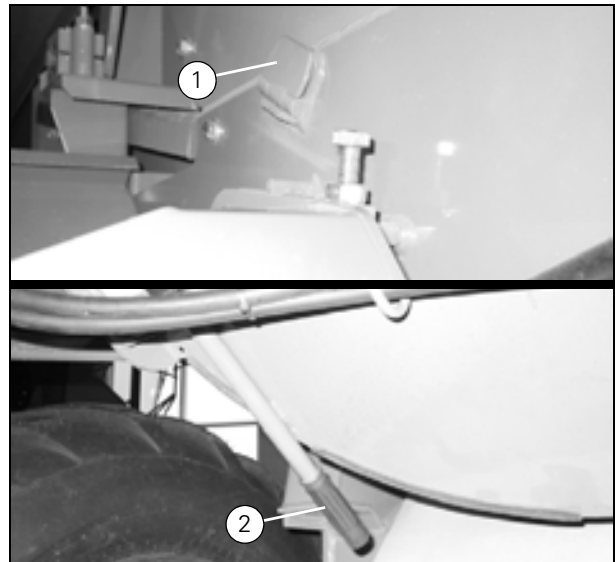
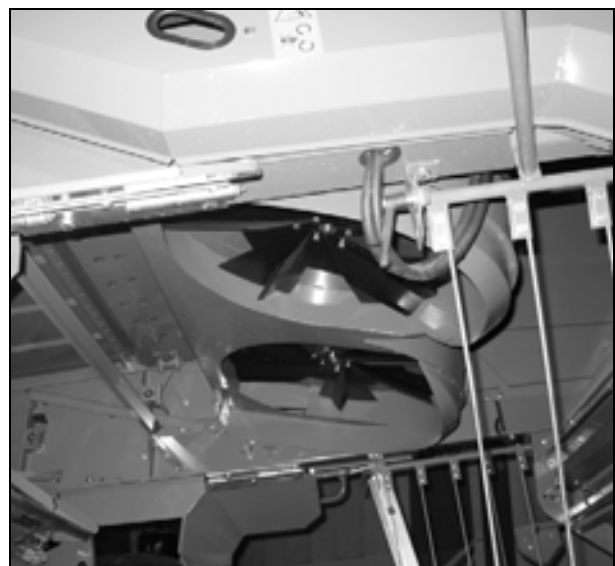

Fig. 29
Fig. 30
(Fig. 29) and (Fig. 30)
To do so, turn up the two pivotal retainers (1) on the right- and left-hand sides of the straw hood into vertical position, as shown in (Fig. 29), top.
Then fold up the chaff spreader into service position. Make sure always to stand behind the chaff spreader using the lever (2) to fold the chaff spreader into service position, (Fig. 30).